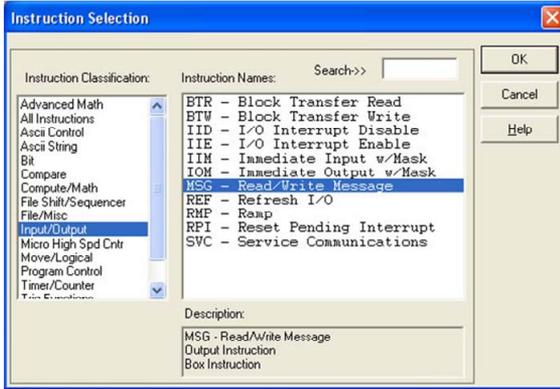

Figure 101: MSG Instruction Selection
- d) Select the "MSG" instruction from the "Input/Output" classification, then click OK. Refer to Figure 101.